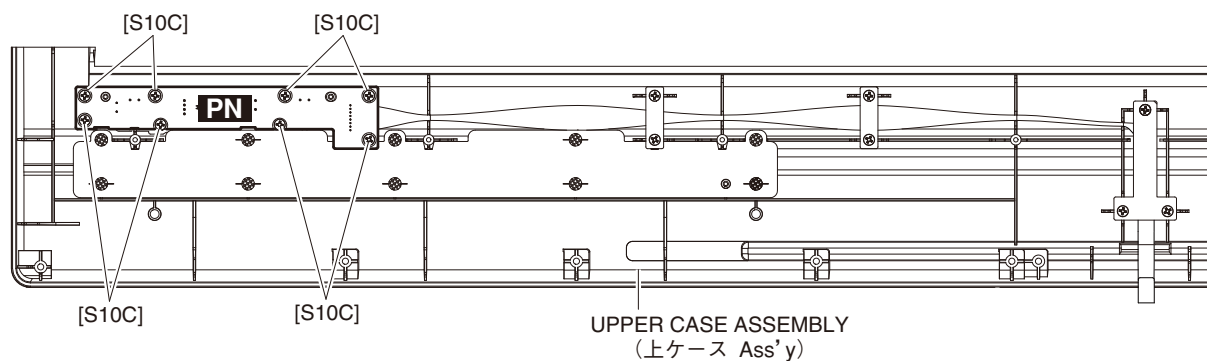

Fig. B-6 (図 B-6)
- B-6-4. Remove the eight (8) screws marked [S10C]. The PN circuit board can then be removed. (Fig. B-6)
(図 B-6)